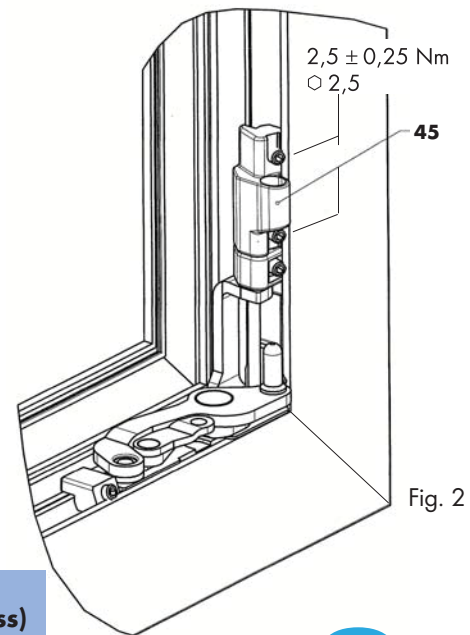

Fig. 2
5. Insert frame part BSU A0040 right/left (45) into the frame groove and position it on the axxent bottom hinge as shown in the diagram (fig. 2).
6. Tighten the grub screws of frame part BSU A0040 right/left (45) with 2.5 ± 0.25 Nm torque.